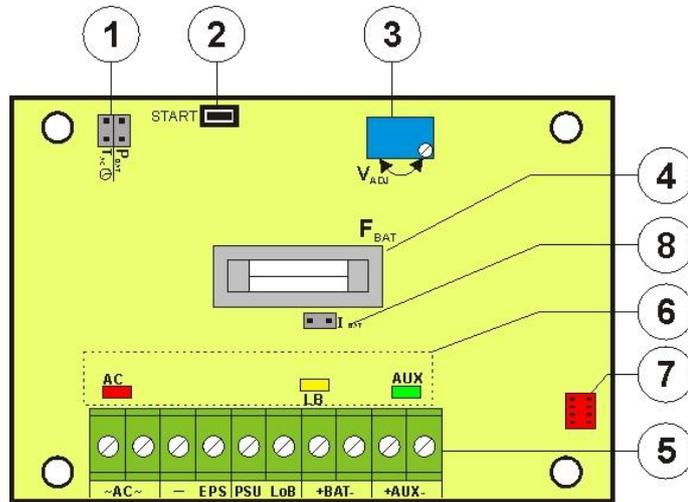

Fig.2. View of the PCB.
1.3 Description of PSU components and connectors (Table 1, Fig. 2).
[2]	Power-supply unit board (See tab. 1, fig. 2)